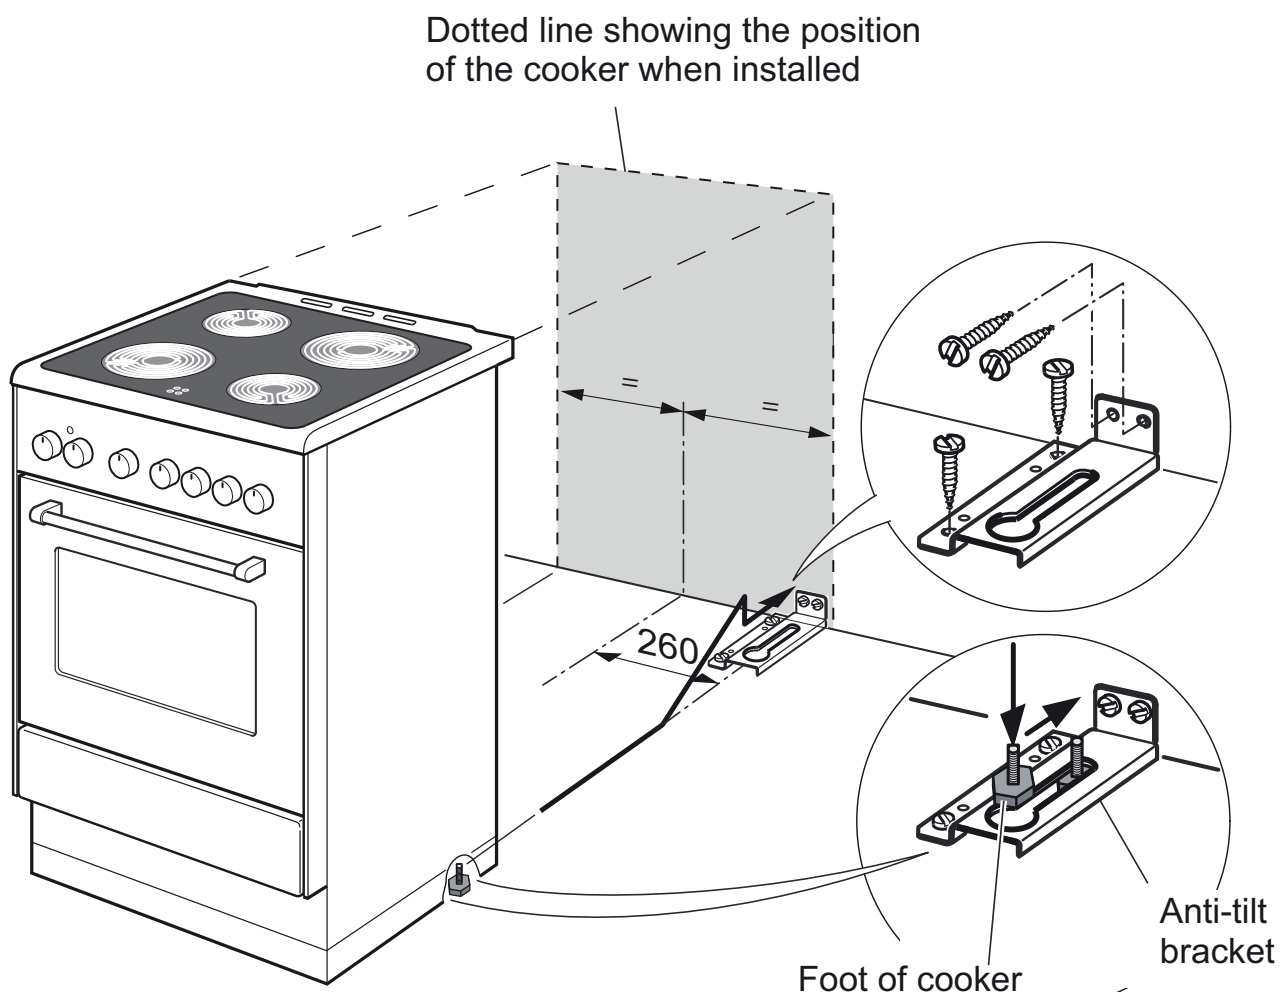

Figure 5
1. After you have located where the cooker is to be positioned, mark on the wall and on the floor the place where the four screws of the anti-tilt bracket have to be fitted. Please follow the indications given in fig. 5.
3. Attach the anti-tilt bracket to the floor and rear wall using the four screws supplied, as shown in Fig. 5.
Ensure that the rear right foot slides under the bracket, as shown in Fig. 5.